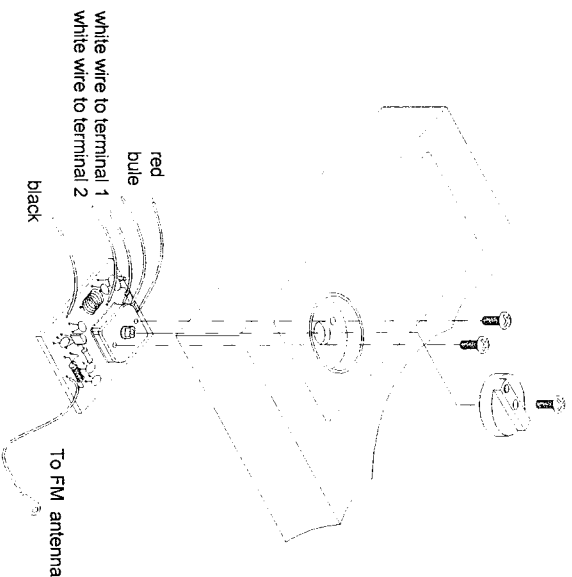

Figure 11
- Mount the FM Tuner Board from the bottom of the panel and position as shown in Figure 11.